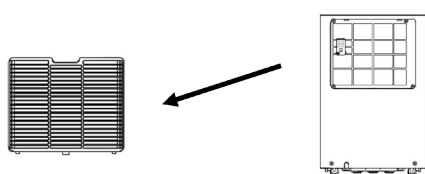

Fig.1
1. Remove the filter by releasing it from its seat (Fig.1).